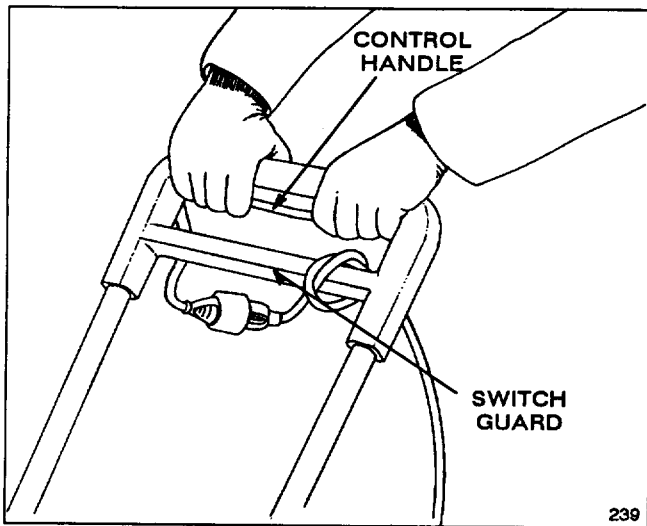

Figure 3
6. Do not use the snowthrower on gravel or crushed rock surfaces unless used in accordance with Operating Instructions; refer to page 4, item 5.
8. To prevent disconnection of snowthrower cord from extension cord during operation, tie extension cord to switch guard before connecting to snowthrower cord; refer to page 4, figure 3 for proper procedures.
1. Tie the extension cord to the switch guard before connecting to the snowthrower cord. This prevents separation of the cords during operation (Fig. 3).
To start rotor, make sure key is installed, and squeeze the control handle. To stop, release the control handle (Fig. 3).
1. Squeeze the control handle to start the rotor (Fig. 3). The depth and weight of the snow governs the forward speed.